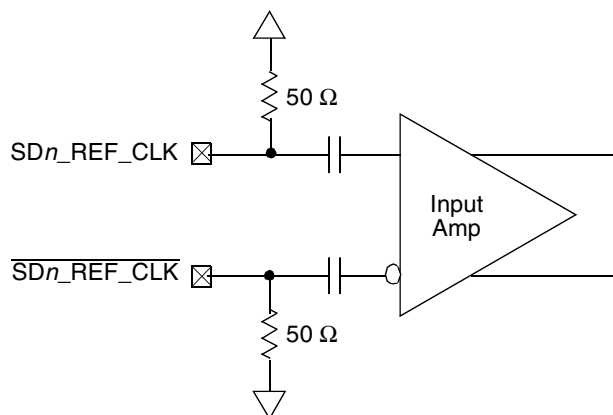

Figure 55. Receiver of SerDes Reference Clocks
Figure 55 shows a receiver reference diagram of the SerDes reference clocks.
- The SDn_REF_CLK and $\overline{\text{SDn_REF_CLK}}$ are internally AC-coupled differential inputs as shown in Figure 55. Each differential clock input (SDn_REF_CLK or $\overline{\text{SDn_REF_CLK}}$) has a 50 Ω termination to SGND_SRDSn (xc0revss) followed by on-chip AC-coupling.